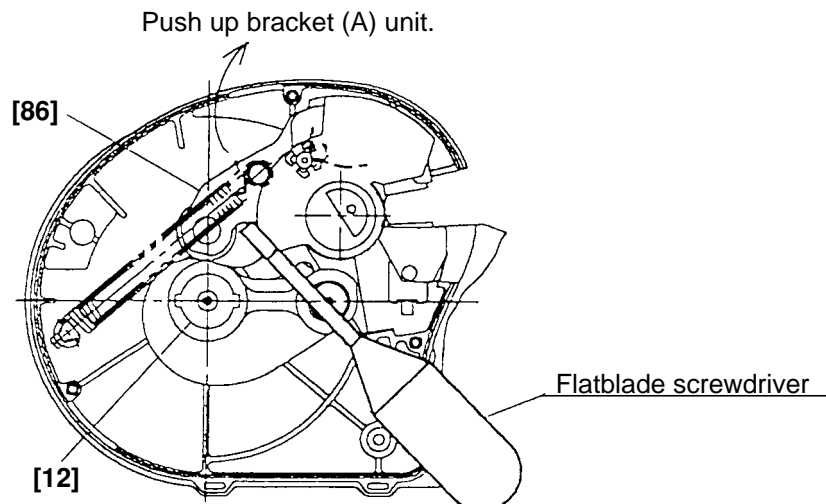

Fig. 16
(6) Removal of the cam shaft unit (Fig. 16)
Push up Bracket (A) [86] with a flatblade screwdriver and mount the cam shaft unit (Fig. 16).
* Before mounting the cam shaft unit, apply grease (DOUBLEX 251) to the sliding surface of the cam and the outer circumference of Roller (C) [76] adequately.